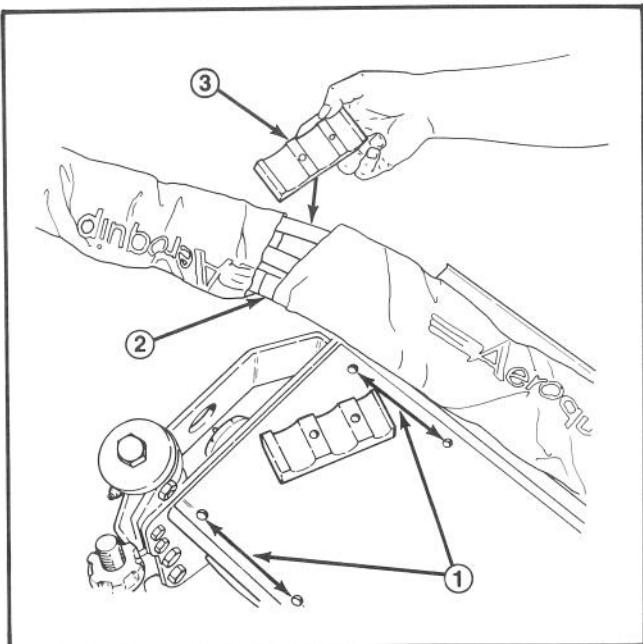

Figure 9
A. The #4 and #5 tipper brackets should be mounted loosely to hydraulic hoses before being installed on the cutting units. Position the smallest hydraulic line toward the rear of the machine (Fig. 9).
E. Tighten tipper bracket clamps on #4 and #5 (Fig. 9).